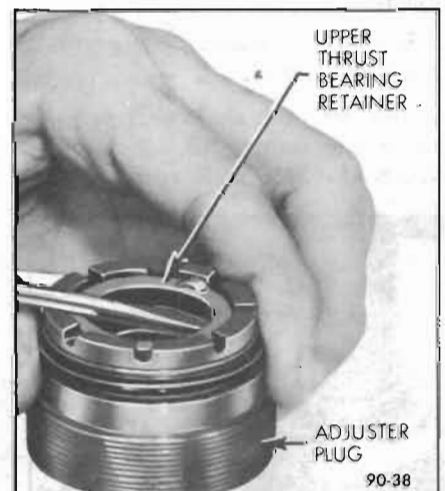

Figure 90-38—Removing Upper Thrust Bearing Retainer
1. Remove the upper thrust bearing retainer with a screwdriver, being careful not to damage the needle bearing bore. See Figure 90-38. Discard retainer. Remove thrust bearing spacer, upper thrust bearing and thrust bearing races.